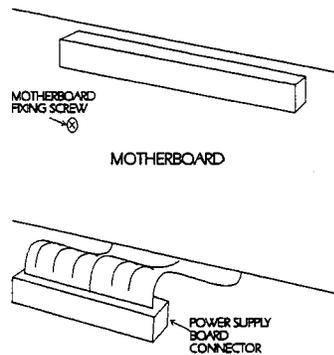

Figure 5-25.
4. Remove the single screw securing the Motherboard to the rear of the chassis sub front panel (see Figure 5-25 for the position of this screw)